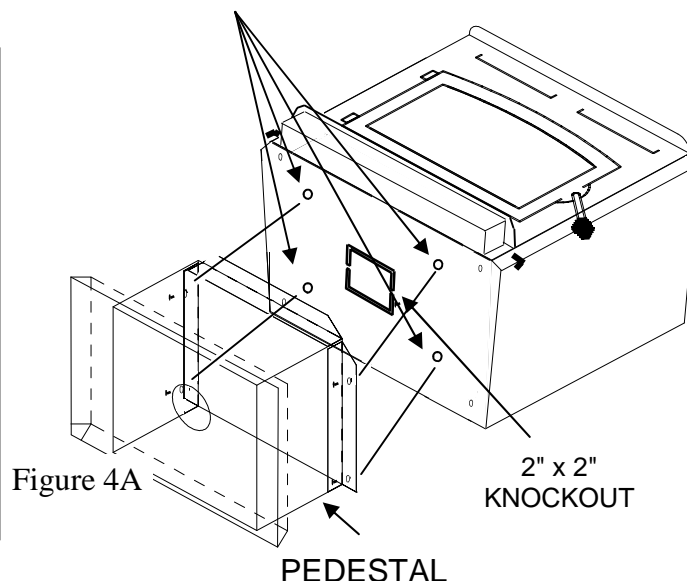

Figure 4A
6. **(Pedestal Kit):** If pedestal kit is being used and **(out side air is required for residential free standing installation (see page 25 Out Side Air Installation))**. Open freestanding kit and obtain the stand. Place stand against bottom of heater (angle side to heater). Center stand front to rear and also center stand left and right. Mark screw locations on bottom of stove through outer holes of stand mounting angles. Set stand aside and drill four 7/32" holes in heater bottom. Before attaching heater to stand, take a large flat screwdriver or pliers and remove 2" x 2" knockout on bottom of unit. (See Figure 12A). Then mount stand to bottom of heater with screws provided. (See Figure 4A).
7. Obtain four (4) 3/16" self-tapping screws and secure stand to heater.